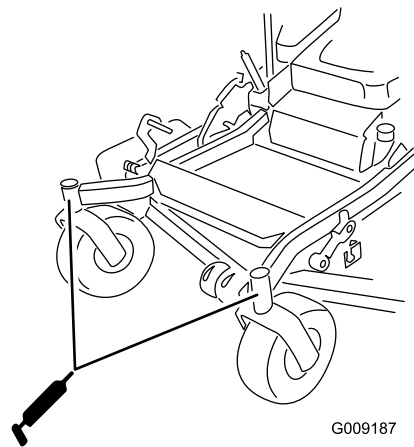

Figure 39
9. Remove the grease zerk in the hole. Install the hex plug and dust cap (Figure 39).
10. Grease the caster wheel bearings (Figure 39).